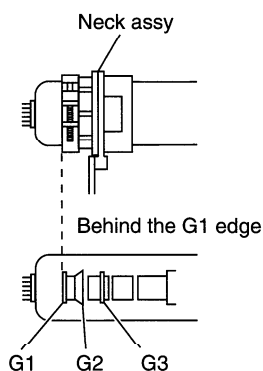

Fig. 4-1
1. Position neck ass'y as shown in Fig4-1.